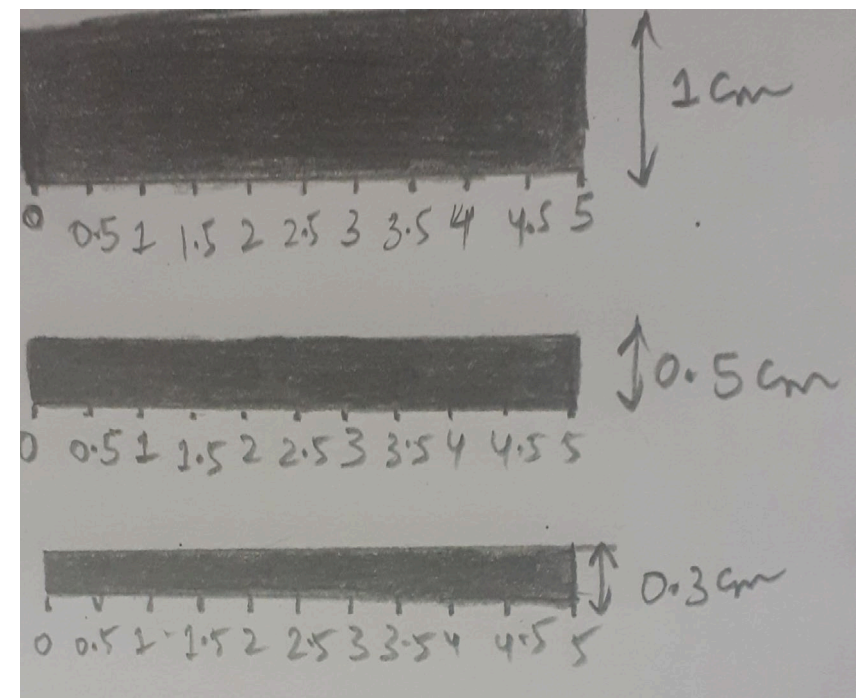

Figure 1.1
- Draw a rectangle with pencil of dimensions of 5cm\*1cm, 5cm\*0.5cm, 5cm\*0.3cm as shown in figure 1.1.